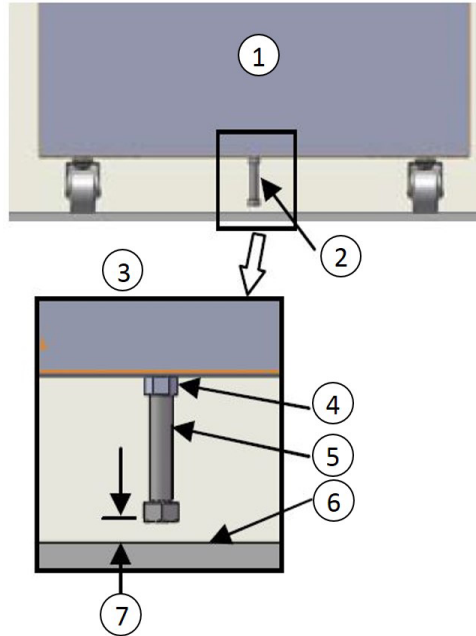

Figure 2. Bolt Location
- b. Unscrew 1/2" bolt until there is 1/2" clearance between floor and head of bolt as shown in the **Figure 2**.